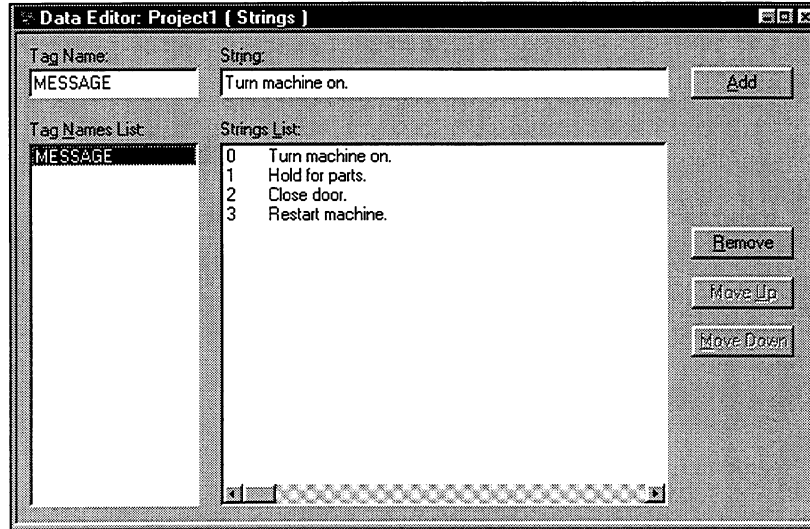

Figure 3-7. String Example
In the example in Figure 3-7, the tag Message is configured as an array of strings, which can then be indexed in an expression.
In the Strings List box in Figure 3-7, the first number is the index (0, 1, 2, and 3), and the second part is the assigned message (for example, Turn machine on).
1. Create a tag that addresses a constant or string array in the Constant form or the String form. See Figure 3-7 for an example of a string array.
6. Type an expression in the Expression text box. For example, if you used the string tag created in Figure 3-7 and the internal driver tag created in Step 2, you would type the following: “MESSAGE[INDEX]”.